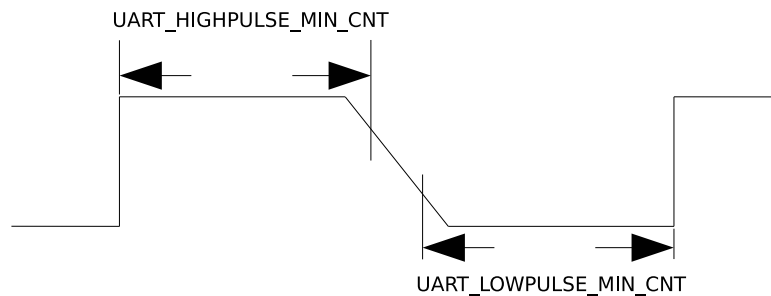

Figure 26-5. The Timing Diagram of Weak UART Signals Along Falling Edges
2. If UART signals are weak along falling edges as shown in Figure 26-5, which leads to an inaccurate average of `UART_LOWPULSE_MIN_CNT` and `UART_HIGHPULSE_MIN_CNT`, use `UART_POSEDGE_MIN_CNT` to determine the transmitter's baud rate as follows: